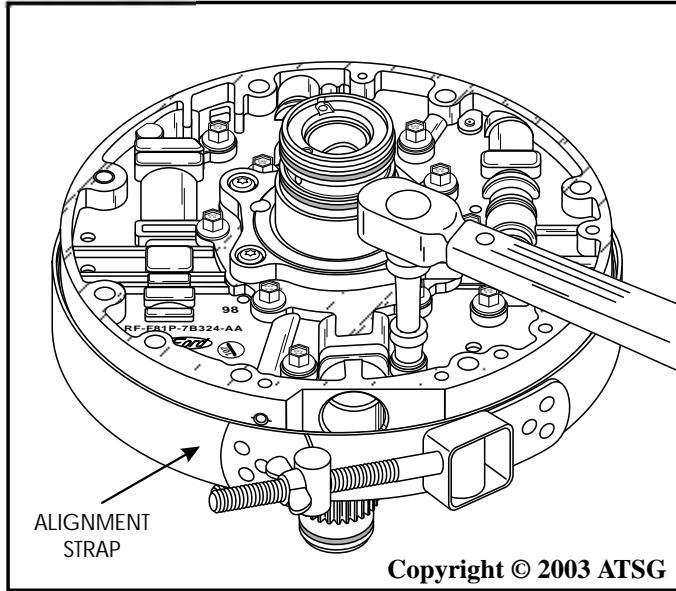

Figure 169
18. Install the oil pump alignment strap, as shown in Figure 169, and tighten securely.
19. Torque the 12 pump body to pump cover bolts, working in a criss-cross pattern. Torque the bolts to 24-31 N·m (18-23 ft.lb.), as shown in Figure 169, and then remove alignment strap.